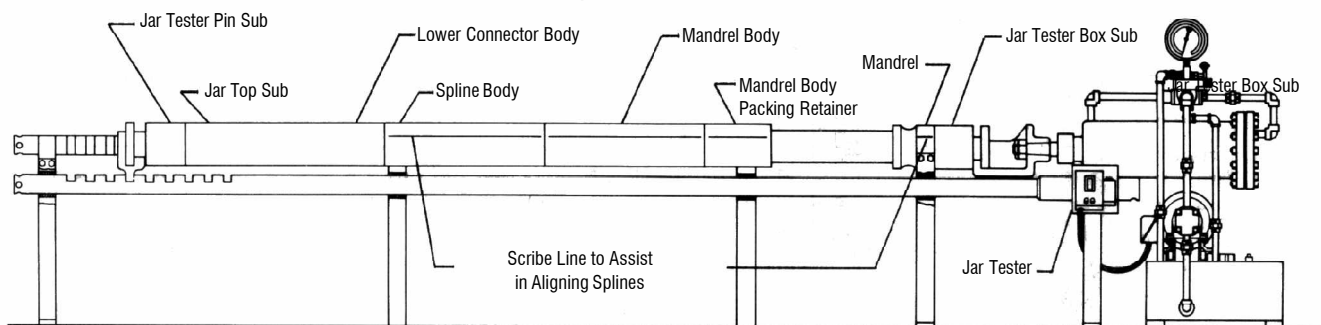

Figure 9
5. Remove O-Rings from Lower Connector Body and pick up Top Sub and make up hand tight on Connector Body pin. Put Jar Tester subs on pin of Mandrel and in box of Top Sub. Using straight edge, scribe line along length of tool from Mandrel tool joint along Bodies to bottom of Spline Body (this will be used in reassembly of tool). Use Jar Tester, set a 4,000 to 6,000 lbs., to pull Mandrel out of Body parts, supporting Body sections and end of Mandrel as they come apart (see Figure 9 on page 18).